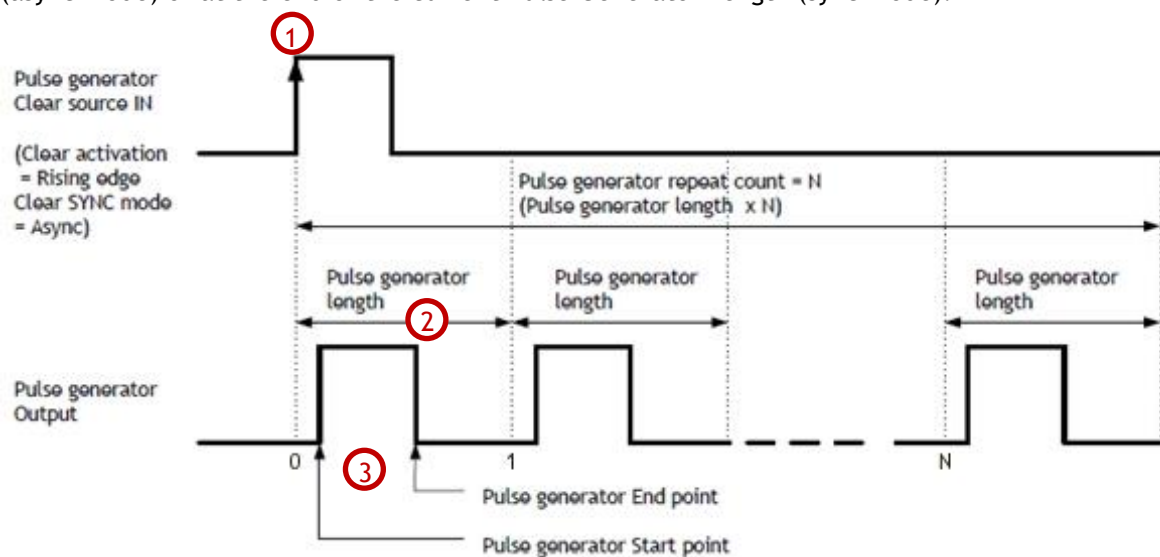

Figure 1 - Basic Pulse Generator operation
It is helpful to understand the basic way a Pulse Generator operates (see Figure 1 below). A Pulse Generator is activated when a user-defined “Clear” signal exhibits a specific behavior (1), such as a rising or falling edge, high-level, low-level, etc. This causes the user-selected Pulse Generator to activate and run for a minimum of one “cycle” called the Pulse Generator Length (2). A user-specified “Start Point” and “End Point” (3) defines when the actual pulse will occur during the Pulse Generator cycle. Thus, each Pulse Generator cycle typically includes a portion of time when the signal is low, and a “pulse” period when the signal is high. Pulse Generator operation is extended by using a “Repeat Count” parameter, and/or by sending a new “Clear” signal to restart the Pulse Generator Length cycle. The restart can occur immediately (async mode) or at the end of the current Pulse Generator Length (sync mode).